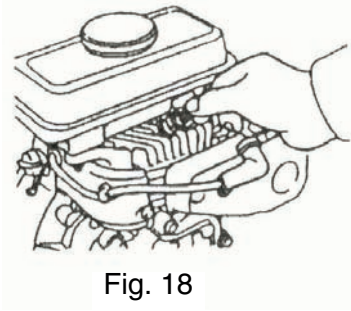

Fig. 18
4. Check to see if the spark plug gasket is in good condition. If not, replace with a new one. Screw on the spark plug by hand to the bottom first to prevent cross-threading (Fig. 18).